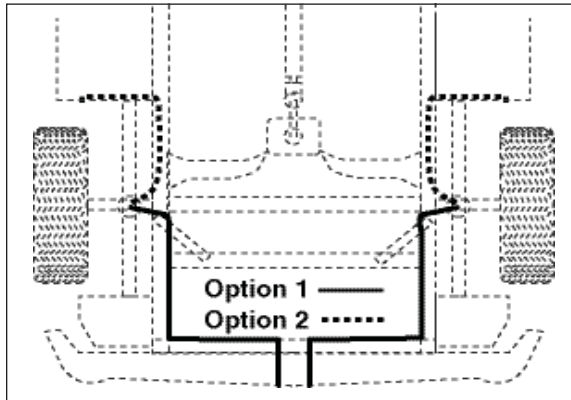

Figure 6
6. Route the air line along the frame to the air fitting on the air spring (Figure 6). Keep at least 6" of clearance between the air line and heat sources, such as the exhaust pipes, muffler, or catalytic converter. Avoid sharp bends and edges. Use the plastic tie straps (BB) to secure the air line to fixed, non-moving points along the chassis. Be sure that the tie straps are tight, but do not pinch the air line. Leave at least 2" of slack to allow for any movement that might pull on the air line.